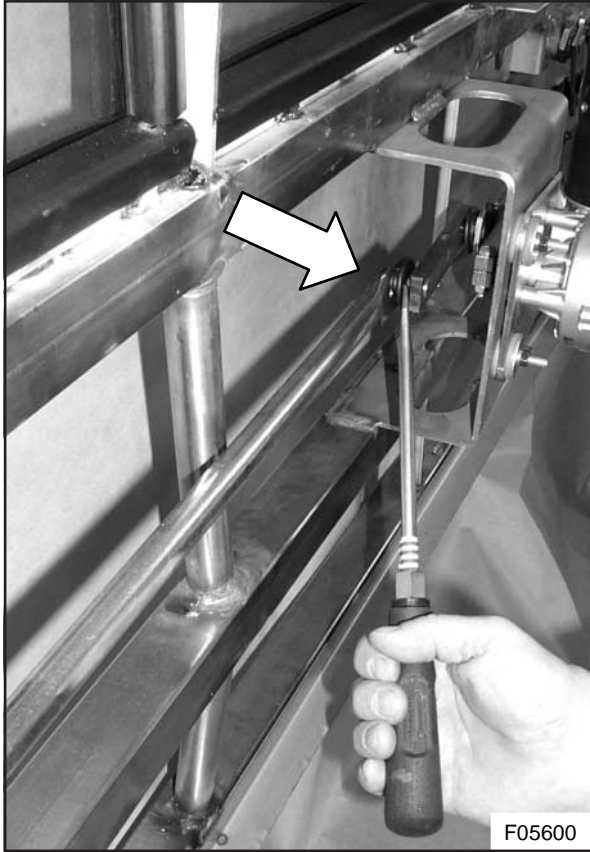

Figure 5 : LH wiper tie bar inner knuckle joint (step shown on test stand)
- 6) With a large screwdriver, separate the left-hand wiper tie bar from the inner knuckle joint (see Figure 5). Make sure to recover the dust cap. Take note of its installation.